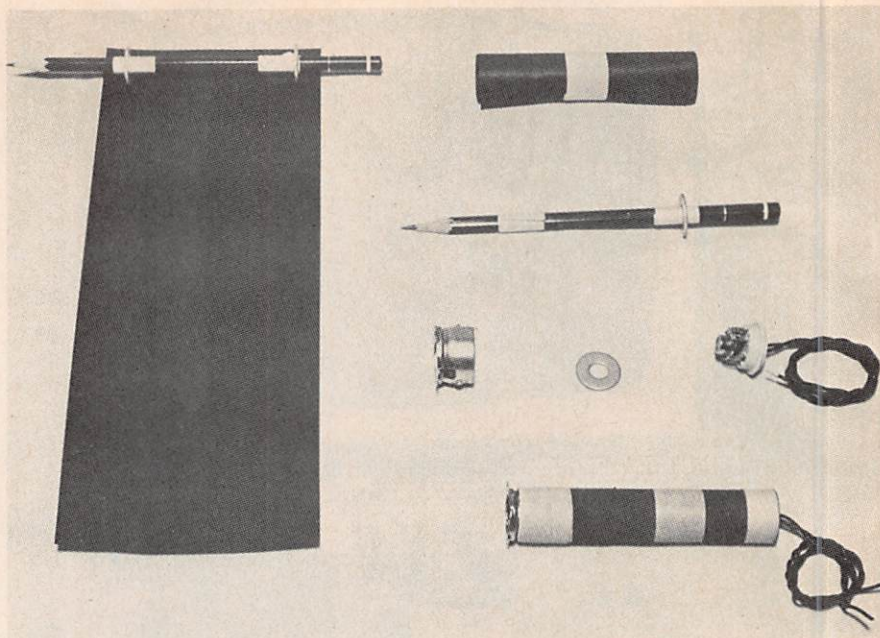

Fig. 2. Photo shows how to make light shield out of black construction paper. Base from a 9-pin shielded tube socket is used as a mounting bracket.
**Construction.** To construct the light shield, use a piece of 8" × 4" (20.3 × 10.1 cm) matte black construction paper. Form a tube by rolling it around two ¾" flat washers. Insert a washer inside the paper tube at the halfway point and perpendicular to the central axis. Drop in a small amount of glue to secure it in place. Use tape to hold the tube together, as shown in Fig. 2.